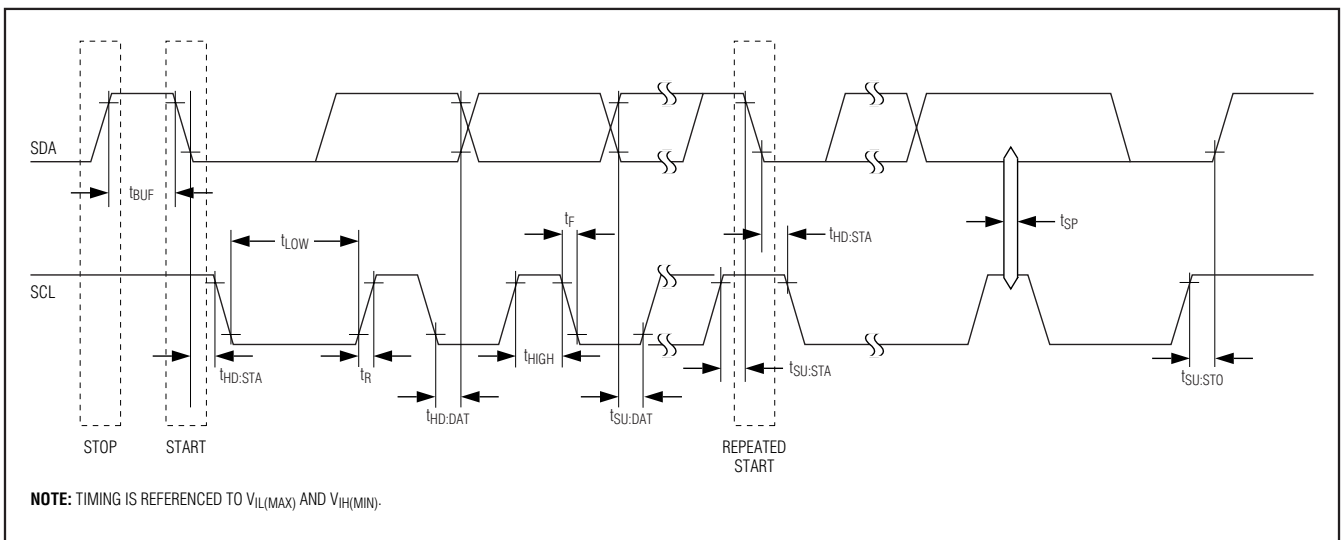

Figure 4. I2C Timing Diagram
( $2.5V \leq V_{CC} \leq 4.5V$ ,  $T_A = -20^{\circ}C$  to  $+70^{\circ}C$ , timing referenced to  $V_{IL(MAX)}$  and  $V_{IH(MIN)}$ . See Figure 4.)
**START Condition:** A START condition is generated by the master to initiate a new data transfer with a slave. Transitioning SDA from high to low, while SCL remains high, generates a START condition. See Figure 4 for applicable timing.
**STOP Condition:** A STOP condition is generated by the master to end a data transfer with a slave. Transitioning SDA from low to high, while SCL remains high, generates a STOP condition. See Figure 4 for applicable timing.
**Repeated START Condition:** The master can use a repeated START condition at the end of one data transfer to indicate that it will immediately initiate a new data transfer following the current one. Repeated STARTs are commonly used during read operations to identify a specific memory address to begin a data transfer. A repeated START condition is issued identically to a normal START condition. See Figure 4 for applicable timing.
**Bit Write:** Transitions of SDA must occur during the low state of SCL. The data on SDA must remain valid and unchanged during the entire high pulse of SCL plus the setup and hold-time requirements (see Figure 4). Data is shifted into the device during the rising edge of the SCL.
**Bit Read:** At the end a write operation, the master must release the SDA bus line for the proper amount of setup time (Figure 4) before the next rising edge of SCL during a bit read. The device shifts out each bit of data on SDA at the falling edge of the previous SCL pulse, and the data bit is valid at the rising edge of the current SCL pulse. Remember that the master generates all SCL clock pulses, including when it is reading bits from the slave.
**Acknowledgement (ACK and NACK):** An acknowledgement (ACK) or not acknowledge (NACK) is always the 9th bit transmitted during a byte transfer. The device receiving data (the master during a read or the slave during a write operation) performs an ACK by transmitting a zero during the 9th bit. A device performs a NACK by transmitting a one during the 9th bit. Timing for the ACK and NACK is identical to all other bit writes (see Figure 4). An ACK is the acknowledgment that the device is properly receiving data. A NACK is used to terminate a read sequence or as an indication that the device is not receiving data.